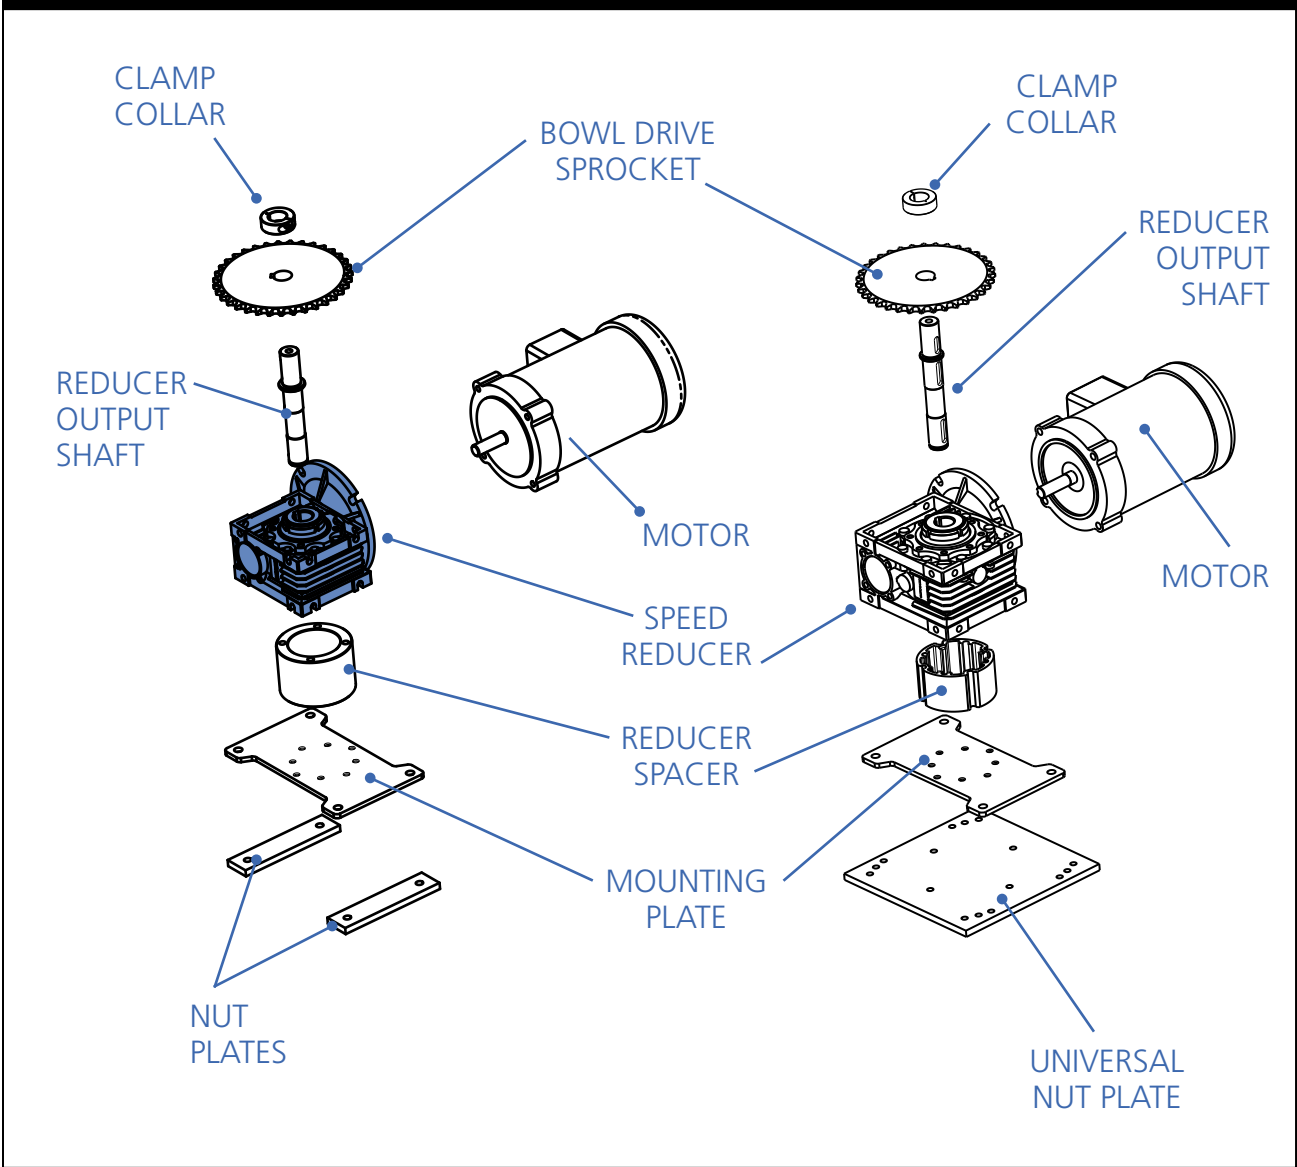

Figure 5-3. Typical FT40/50-RD Single Drive Assembly (Left) and FT-60-RD Single Drive Assembly (Right)
**Step 5—Assemble Output Shaft.** The output shaft on the speed reducer comes as a separate kit. If replacement is required, clean both contact surfaces before assembly and apply any appropriate anti-seize compound to avoid oxidation (rust) and possible seizing of parts. Slide the sprocket(s) down onto the reducer output shaft. You will need to adjust the height of the sprocket(s) to match the heights of the corresponding sprocket(s) on the spindle assembly (see Figure 5-3 on the following page regarding the order). Tighten setscrew. The speed reducer used in the feeder is lubricated for life with synthetic lubricant and requires no filling before use.